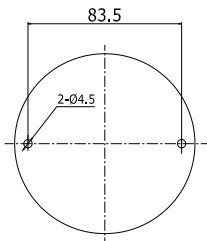

Figure 2-3 The Drill Template
4. Drill two screws holes according to the circles on the drill template as shown in Figure 2-3.